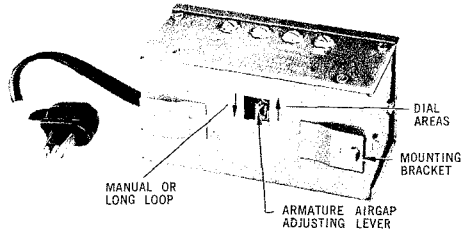

Fig. 5 - NS-16301, List 7 Relay
3.09 The NS-16301, List 15 Relay is provided with two sensitivity terminals designated "HI" and "LO". The superseded NS-16301, List 7, which may be substituted, had an armature air-gap adjustment located on the bottom. (See Fig. 5.)